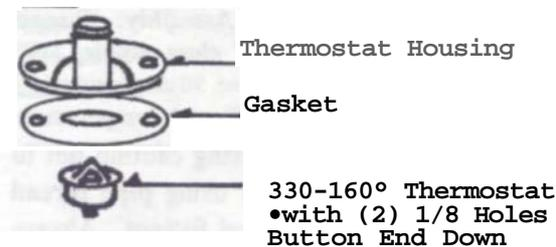

Figure 1
3. Locate original thermostat housing assembly at top, front, center of engine (Figure 1). Disconnect the wire connected to the high water temperature alarm sending unit and the wire connected to the water temperature sending unit.
5. Remove thermostat housing assembly from engine by taking out the (2) 9/16" head bolts at back end of housing. Carefully remove plastic retainer and thermostat, high water temperature alarm sender and water temperature sender from housing. These will be used later. Discard original thermostat housing, lifting strap and bolts. You will replace these with new parts from your SJE kit.